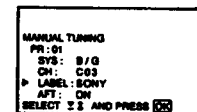

Fig. 13
- 7 Select a letter or number with  $\Delta$  or  $\nabla$  and press OK. Select other characters in the same way. If you want to leave an element blank, select - and press OK. (See Fig. 13.)